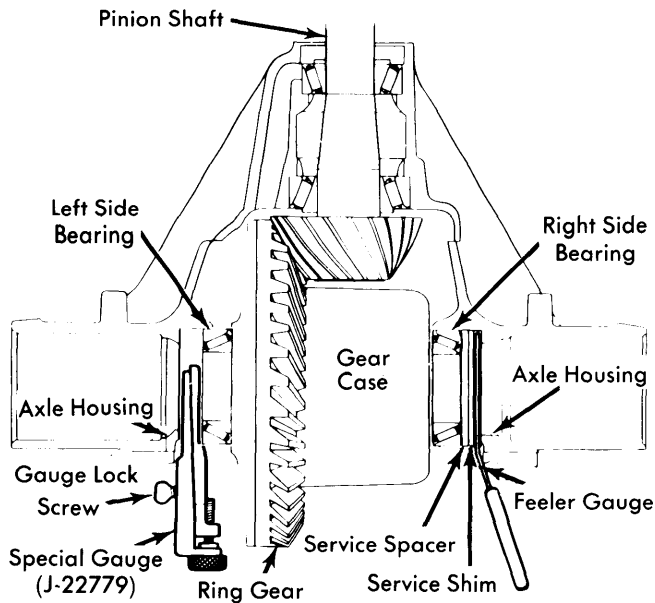

Fig. 10 Gear Case & Side Shim Installation
3) With ring gear tight against pinion gear (a .000-.001" backlash), insert special gauge tool J-22779 between lift bearing cup and housing (refer to Fig. 10). While oscillating special tool, turn adjusting nut until a noticeable drag is felt. Tighten lock bolt on special tool.